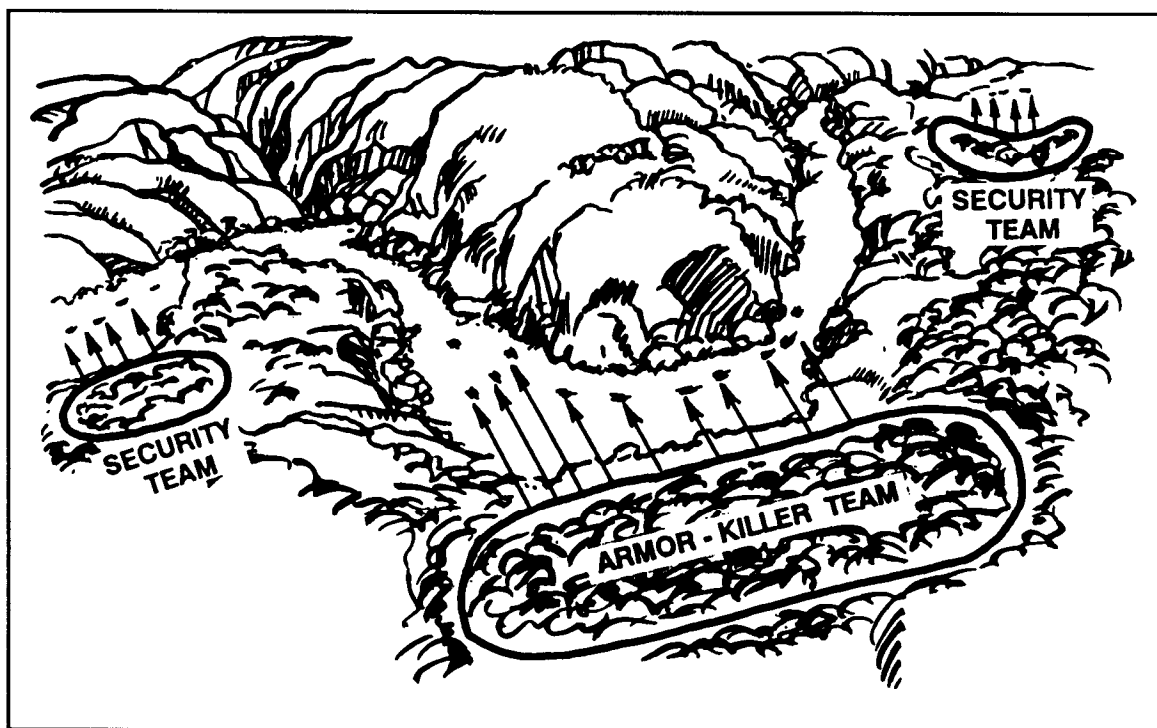

Figure 6-9. Antiarmor ambushes.
(1) **Ambushes (antiarmor).** The commander may employ armor-killer teams either during limited visibility or when cover, concealment, and withdrawal routes are available. The key to ambushing armored or other vehicles is to choose terrain that restricts their maneuverability and fields of fire, but that allows friendly forces to engage the vehicles from the flank and rear. Soldiers can emplace antipersonnel mines before the ambush so dismounting enemy soldiers will deploy into them. Though light antiarmor weapons may be used independently, they are normally used in support of designated organic antiarmor weapons such as the Dragon. Volley firing light antiarmor weapons increases the probability of a quick kill (Figure 6-9, page 6-14). Security teams stop the enemy from escaping.